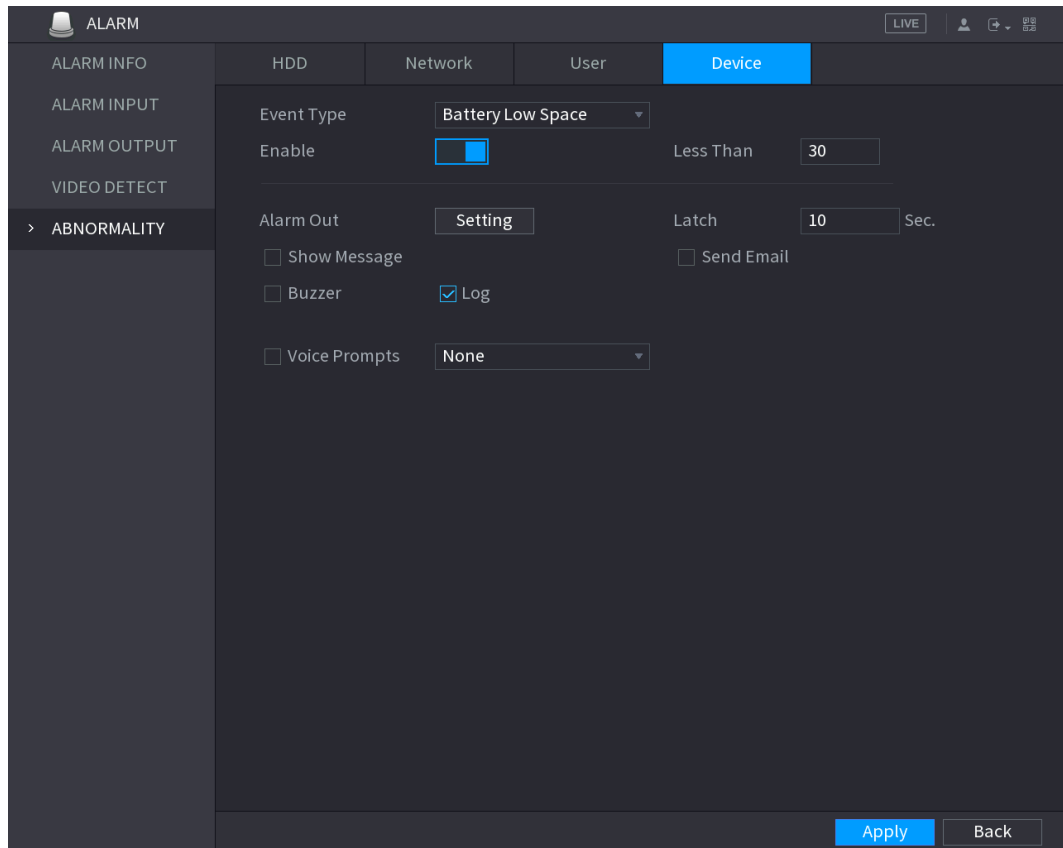

Figure 5-141
Step 3 (Optional) In **Event Type** drop-down list, select **Battery Low Space.** See Figure 5-141.